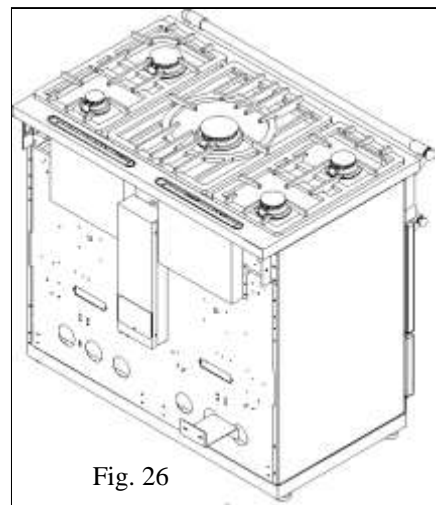
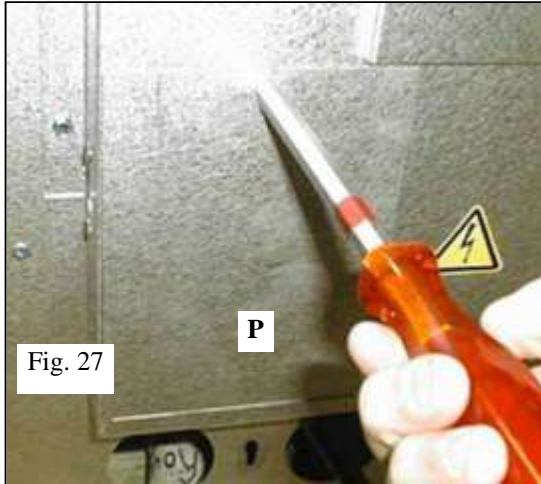

Fig. 26
Fig. 27
- Remove access door **O** (Figure.26, gas oven range) or **P** (Figure 27, gas and electric range).